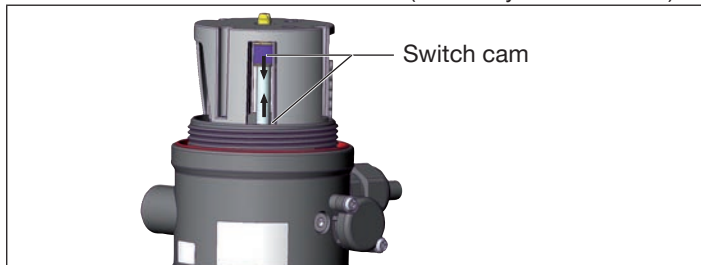

Fig. 27: Adjustment of the micro switch and the proximity switches
- If required, the switch points can still be finely adjusted: Using a screwdriver, push switch cams towards the middle (see “Fig. 27”).